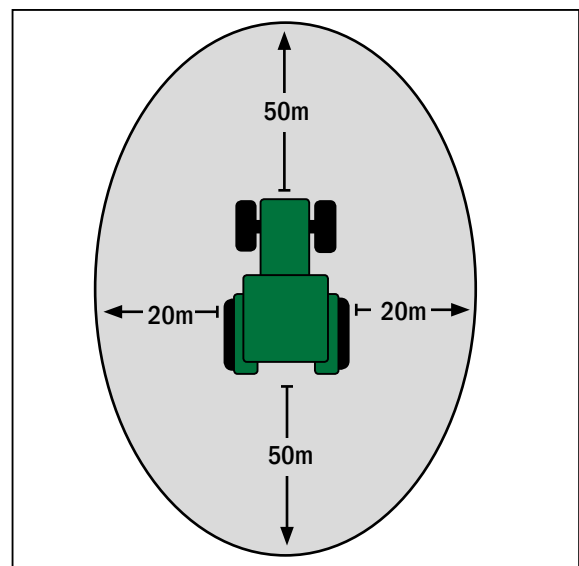

Fig. 2: Danger zone
If installation or servicing is required at the running vehicle or PSR Guidance System, only authorised personnel are allowed to access the danger area (refer to Fig. 2) after clear confirmation by the operator. These personnel have to be informed precisely on any potential dangers before entering the danger area. All tasks have to be precisely agreed on in advance by the operator and these personnel.
- As soon as the steering system is switched on, nobody may remain in the danger zone (see Fig. 2). The operator is obliged to stop the vehicle immediately as soon as persons enter the danger zone. Persons in the danger zone are exposed to the risk of serious or even fatal injury. Persons might be rolled over by the machine if there is a machine malfunction. The operator may only start the steering system again if there are no persons in the danger zone.